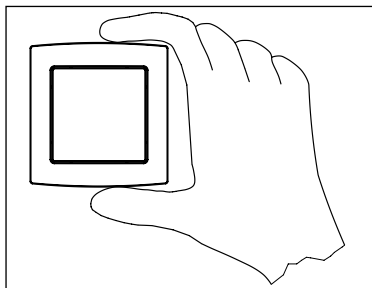

Fig. 4
- Open the device (see Fig. 4).